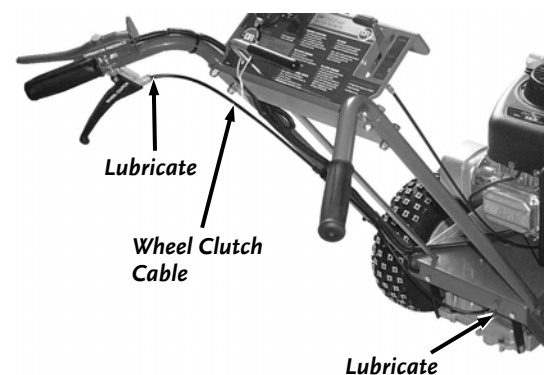

Figure 7
1. Lubricate the Wheel Clutch Cable with SAE 30 Oil (**Figure 7**). Apply the lubricant into the cable housing while working the cable back and forth a few times. You should do this at both ends of the cables. Perform this lubrication more often in dry and dusty environments.